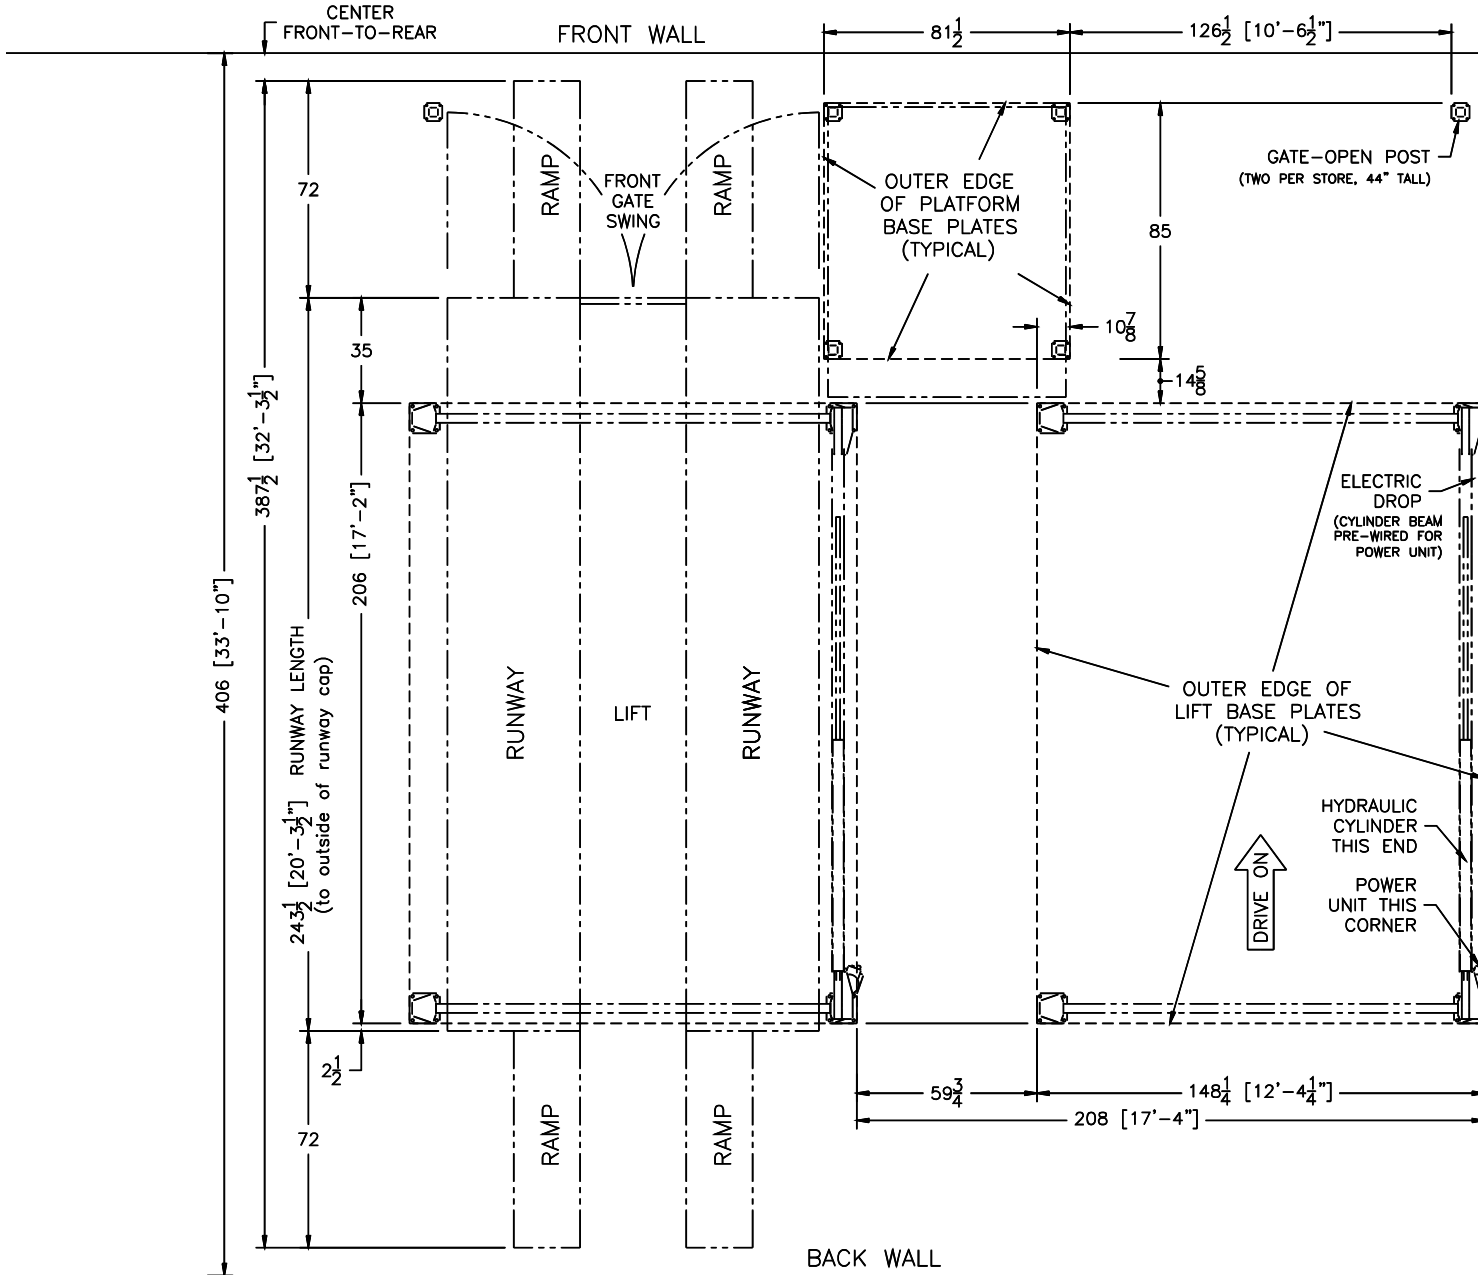

Fig 4A - Service Bay Layout (MDTN2 ONLY)
- MDTN2 installation see Fig 4A